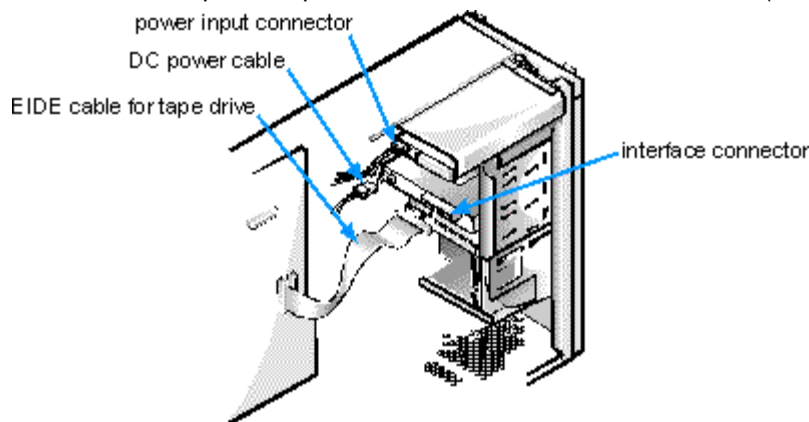

**Figure 10-8. Inserting the New Drive Into the Drive Bay**
- Slide the new drive into the drive bay until it snaps securely into place (see Figure 10-8).